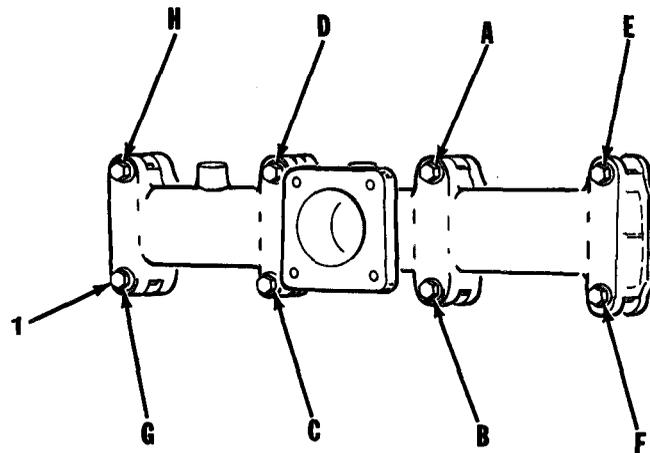

Figure 8-2
2. Torque eight capscrews (1, Figure 8-2) to 32 lb-ft (43 N•m) in sequence shown.